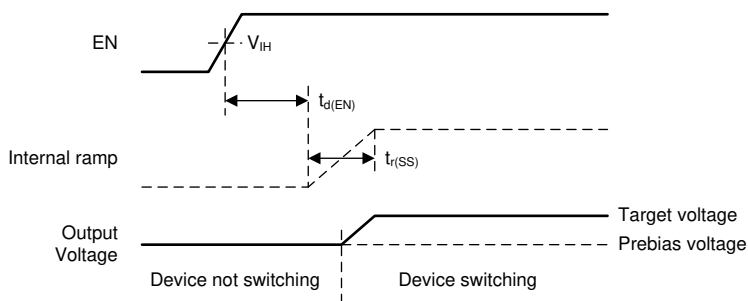

Figure 10. Start-Up Behavior into Prebiased (Low) Output
- If the prebias voltage is *lower* than the target voltage, the device does not start switching until the ramping output voltage is greater than the prebias voltage (see Figure 10).